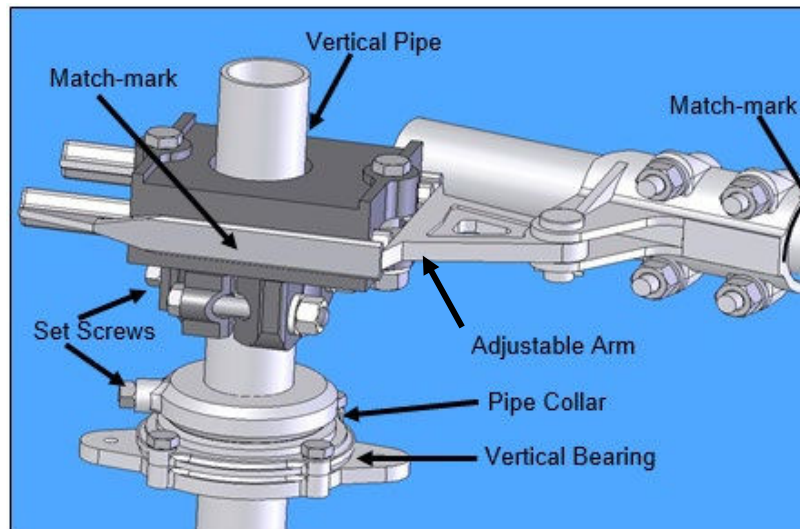

**Figure 19: Alternate Operating Mechanism Designs**
- 5.2. **Figure 19** shows alternate operating mechanism designs, each of which is employed as being the simplest arrangement for a given structure. In all cases, however, the operating principle remains the same, and the methods of installation and adjustment are virtually identical.